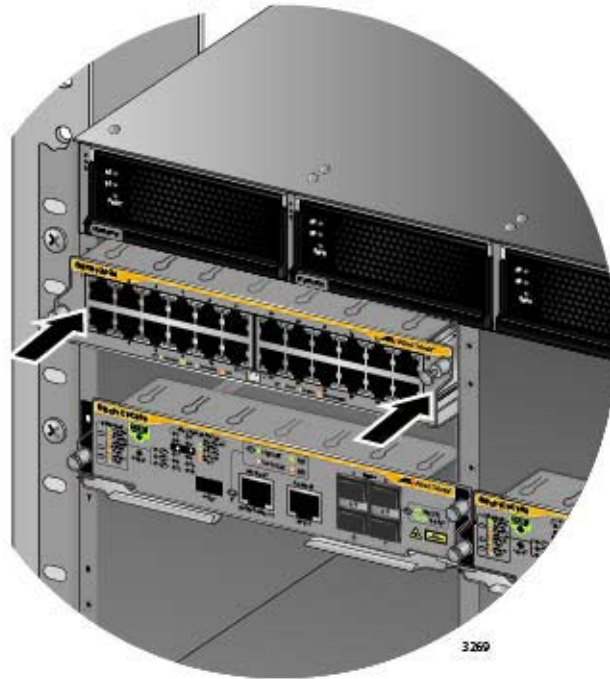

Figure 89. Seating an Ethernet Line Card on the Backplane Connector
7. When you feel the line card make contact with the connector on the backplane of the chassis, gently press on both sides of the faceplate to seat the card on the connector. Refer to Figure 89 on page 157.